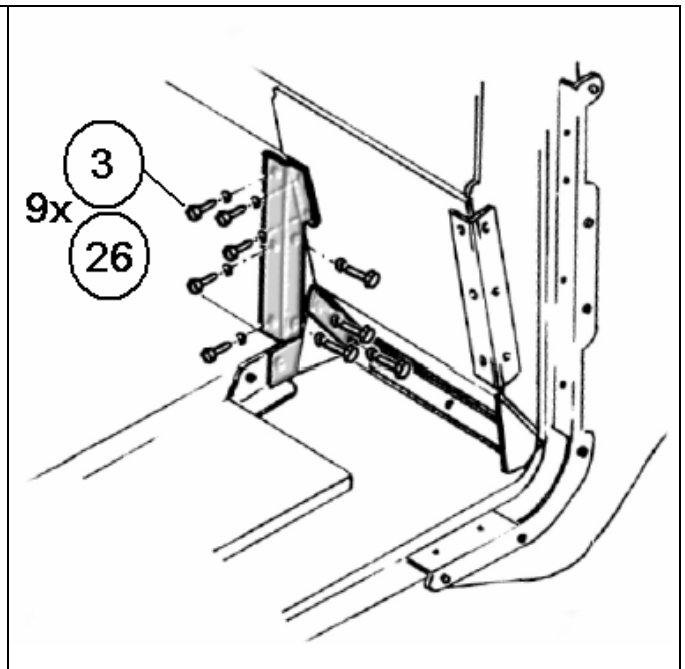

Figure 5-52. Firewall Kit Installation (2 of 4).
2. Continue installation of components in sequence with Figures 5-52 through 5-54.